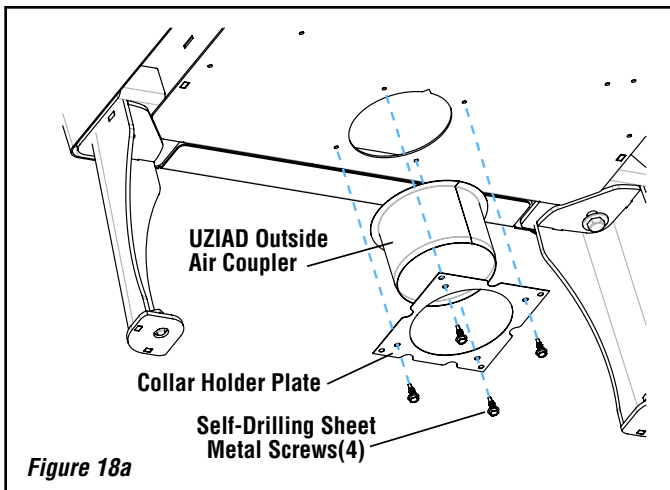

Figure 18a
Collar with Collar Holder: Center the 4" dia. collar on the air intake opening and then secure with the collar holder, using the four (4) 5/8" Tek Screws provided, lining the plate up with the capture holes on the unit. In some instances the capture holes may be absent; the tek screws should then be used to start the holes directly (*Figure 18a*).